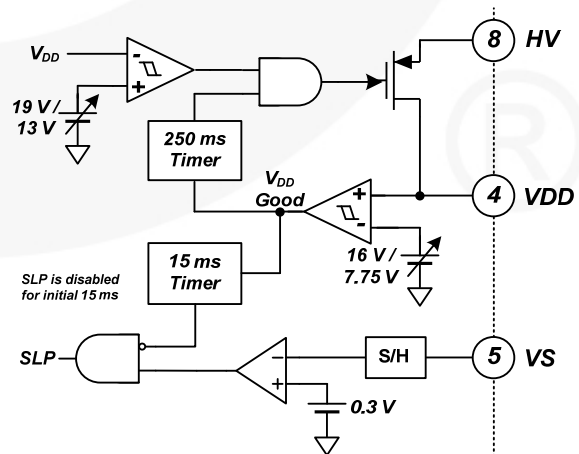
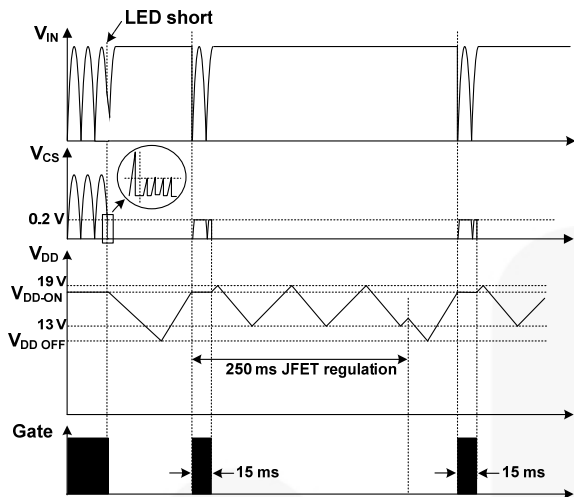

Figure 23. Internal SLP Block
Figure 24. Waveforms in Short-LED Condition
In case of a short-LED condition, the secondary diode is stressed by high current. When V_S voltage is lower than 0.3 V due to a short-LED condition, the cycle-by-cycle current limit level changes to 0.2 V from 1.0 V and SLP is triggered if the V_S voltage is less than 0.3 V for four (4) consecutive switching cycles. Figure 23 and Figure 24 show the SLP block and operational waveforms during LED-short condition. To set enough auto-restart time for system safety under protection conditions, V_{DD} is maintained between 13 V and 19 V, which is higher than UVLO, for 250 ms after V_{DD-ON} . SLP is disabled for an initial 15 ms to ensure successful startup in normal LED condition.